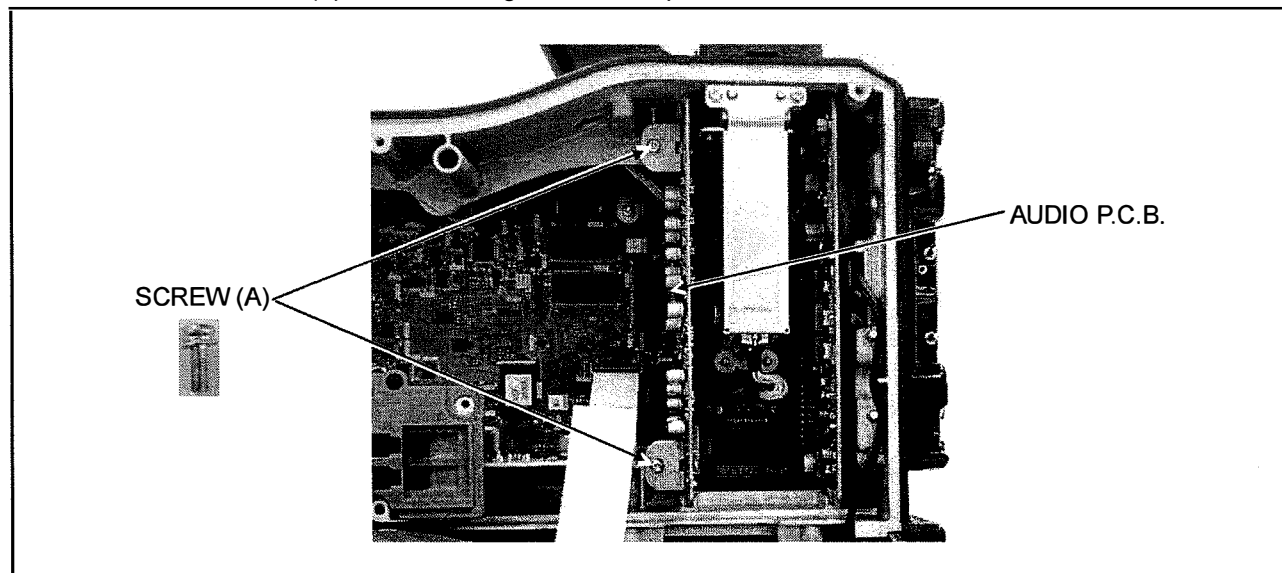

Figure 5-1
2. Unscrew the 2 screws (A) as shown in figure 5-1 and open the AUDIO P.C.B..